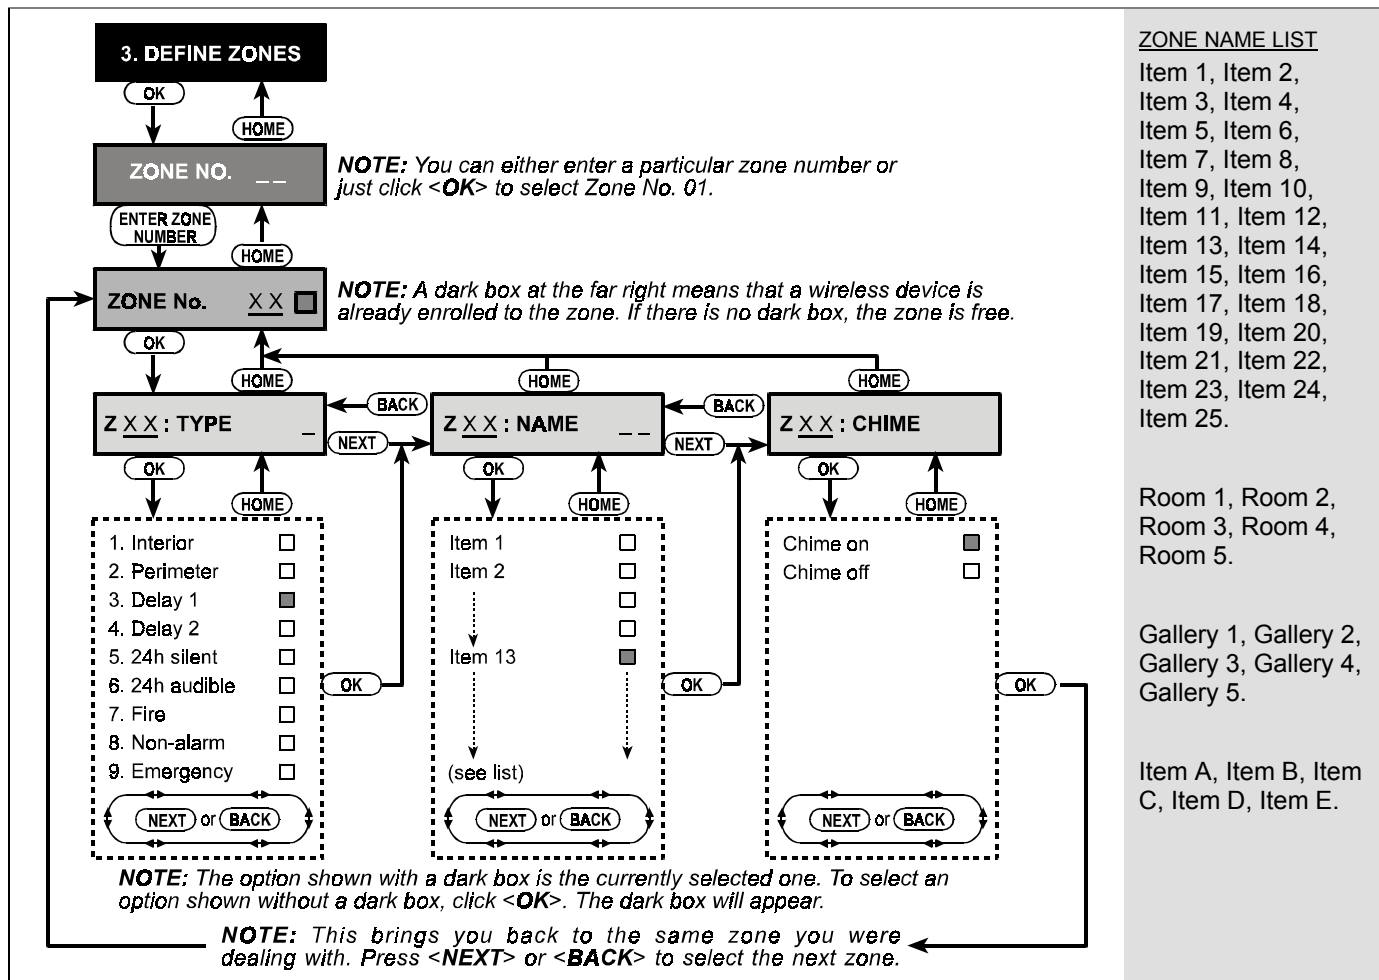

Figure 3. DEFINE ZONES Flow Chart
Should you wish to get an overall view of the entire zone definition process, refer to Figure 3. You may even use the chart as your only guide along the programming process, instead of going through the written step-by-step procedure.
- You can now enter the number of a specific zone definition (see list in Figure 3) and click <OK>. If, for example, you enter <5>=><OK>, the display will read:
G. Press OK and select the desired name from the name list (see list in fig. 3). Use NEXT & BACK keys to move forward and backward in the list. Press OK to accept the zone name.